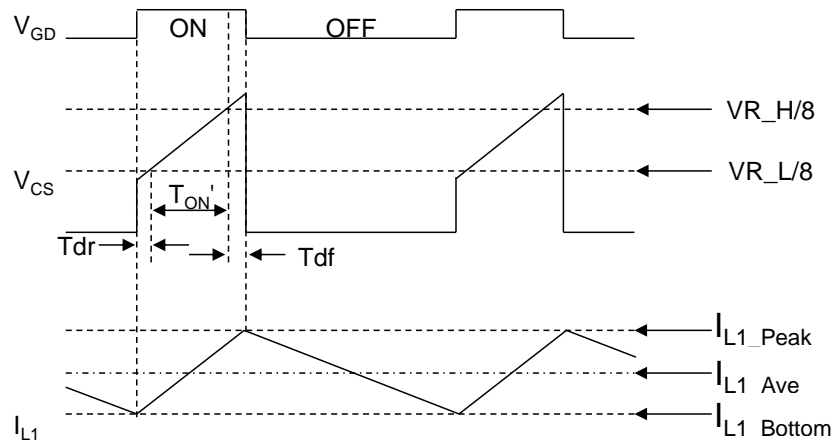

Figure 23. Time Waveform with Group Delay
As mentioned in “2) Switching Frequency”, the inductance value of the coil is determined by input/output voltage conditions and switching frequency [Fsw]. However, the setting calculations for the RVLV pin and the CS pin do not include group delay of the circuit. For example,  $\Delta I_{LI}$  does not include group delay but  $T_{ON}$  includes group delay in equation (10). Therefore, a  $T_{ON}$  value without group delay must be calculated to determine the coil inductance by equation (10). Figure 23 shows a detailed time waveform of the GD pin voltage, the CS pin voltage and the coil current, which is shown in Figure 2, with group delay.
In Figure 23,  $T_{dr}$  indicates group delay from a rising of the GD pin voltage to a falling of the A2 comparator.  $T_{df}$  indicates group delay from a peak current detection of the CS pin to a falling of the GD pin voltage. Although these values vary depending on the characteristics of  $M_1$  and IC performance, group delays are approximately determined by following expressions.